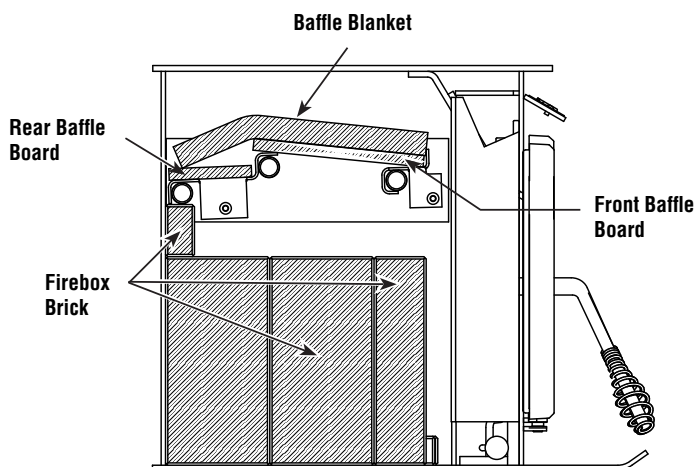

Figure 8
- The final step of the baffle board & baffle blanket installation will be installing the front baffle boards. The front baffle boards will be the two remaining baffle boards which are the larger two baffle boards of the four baffle board kit. They will be installed with the 7-3/8" dimension from the front to rear of the firebox. Start by setting the back side of the board on the rear baffle making sure that it is placed far enough back to lift up and onto the front baffle. Next you will place the front edge of the front baffle boards on the top side of the front baffle and slide them towards the firebox front until it stops against the front baffle edge. You will do this with each front baffle board with one to the right side of the firebox and one to the left side of the firebox. Confirm that the baffle blanket is directly on top of the baffle boards and that it does not protrude beyond the front baffle or front baffle boards as shown in **Figure 8** (also see note on **Page 11**).